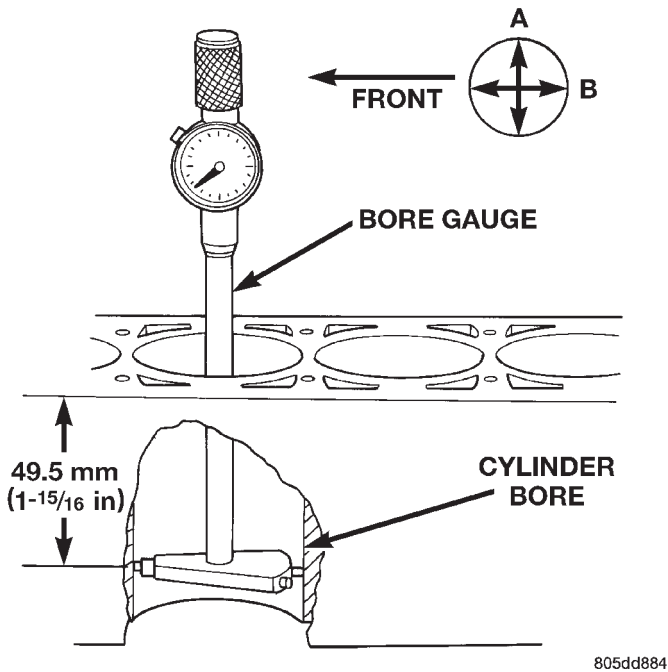

Fig. 5 Bore Gauge
(1) To correctly select the proper size piston, a cylinder bore gauge, capable of reading in 0.003 mm (.0001 in.) INCREMENTS is required. If a bore gauge is not available, do not use an inside micrometer.
(2) Measure the inside diameter of the cylinder bore at a point 49.5 mm (1-15/16 inches) below top of bore. Start perpendicular (across or at 90 degrees) to the axis of the crankshaft at point A and then take an additional bore reading 90 degrees to that at point B (Fig. 5).
(3) The coated pistons will be serviced with the piston pin and connecting rod pre-assembled. **The coated piston connecting rod assembly can be used to service previous built engines and**